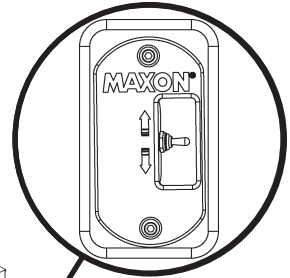

FIG. 10-2A
Toggle switch (FIG. 10-2A) on RH runner lets operator raise (UP) and lower (DOWN) the platform (FIG. 10-2B) only. Switch stays within reach when operator rides platform UP and DOWN.